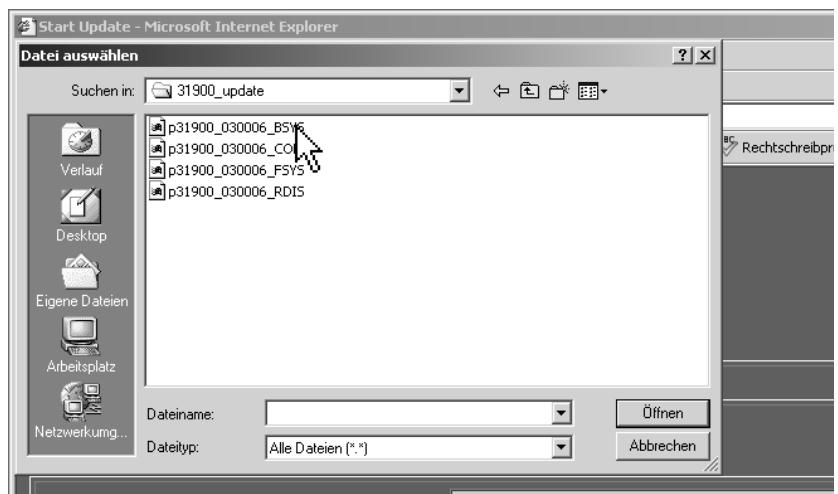

Fig. 8-6: The update file selection dialog box
4. Use the displayed dialog to select the directory path where you have stored the **four** update files. Select the file **p31900_xxxxxx_BSYS** first (see Fig. 8-6). xxxxxx represents the current software version code (also see Chapter 6.4 for details).